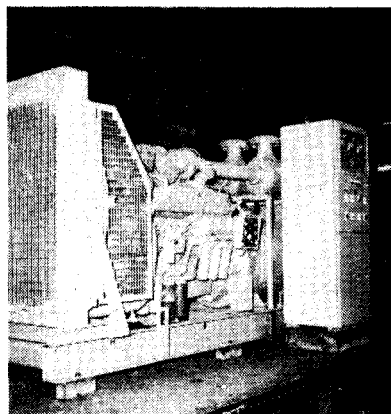

Figure 30
15. Verify that Engine No. 1 is running at governed speed by noting the frequency meter and voltmeter readings. See Figure 30. They should indicate between 61 and 62 hertz and 600 volts respectively. The kilowatt meter and ammeter should read zero. If not, open the main circuit breaker and contact the maintenance department. See Note 2.